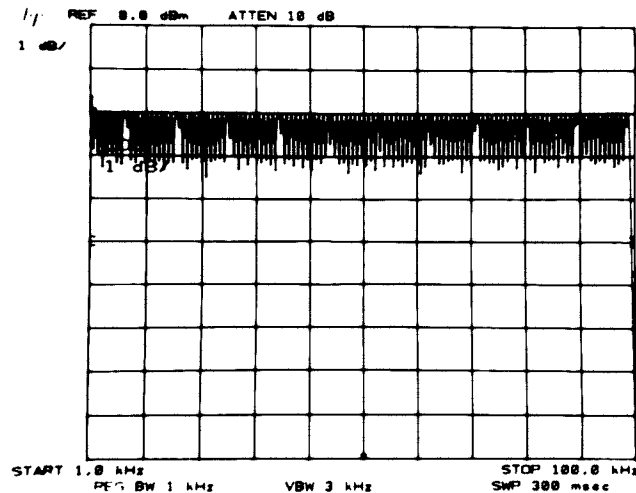

Figure 4-18. Frequency Response Measurement (1 kHz to 100 kHz)
11. Press TRACE A  . Press MODULATION SWP on the function generator. When function generator completes one sweep, press TRACE A  . Trace should appear as in Figure 4-18.